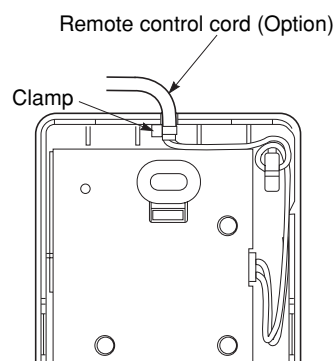

Fig. 7-17
- (5) After arranging the wiring on the printed circuit board as shown in Fig. 7-17 so that it is contained within the signal receiving unit, attach the back case. At this time, arrange so that the head of the clamp faces the side.
- (6) Remove the cover plate and install the signal receiving unit using the 2 wood screws.
- (7) Fasten to the wall using the cord clip (supplied).
- (8) Reinstall the cover plate.